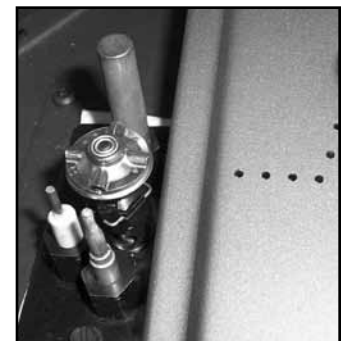

Figure 14. Ignitor assembly beside the burner.
8. Reinstall the burner, brick panels, log set, embers, and glass door. Also refer to SECONDARY INSTALLATION - LOG SET AND EMBERS INSTALLATION. When re-installing the burner, ensure that the burner to pilot hood relationship is similar to what is shown in Figure 14. On some units you will need to pay special attention when installing the burner that the venturi adjustment rod is properly installed into the venturi adjustment piece welded to the burner venturi tube